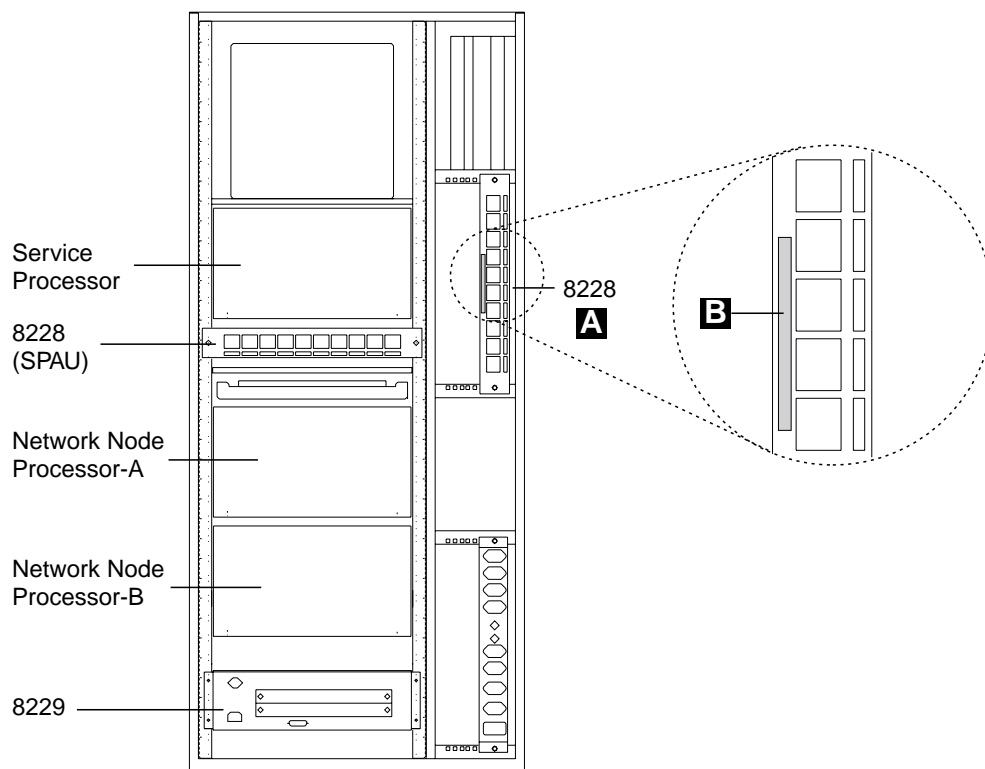

Figure 2-20. Installing One Ethernet Bridge in the Controller Expansion-A (Rear View)
- g. ____ Refer to Figure 2-20, and install vertically the 8228 **A** on the rear side of the controller expansion-A using two screws (PN 1621232) and two captive nuts (PN 58G5766). Using label **B** (PN 782964), identify the 8228 as Ethernet Bridge Access Unit-A